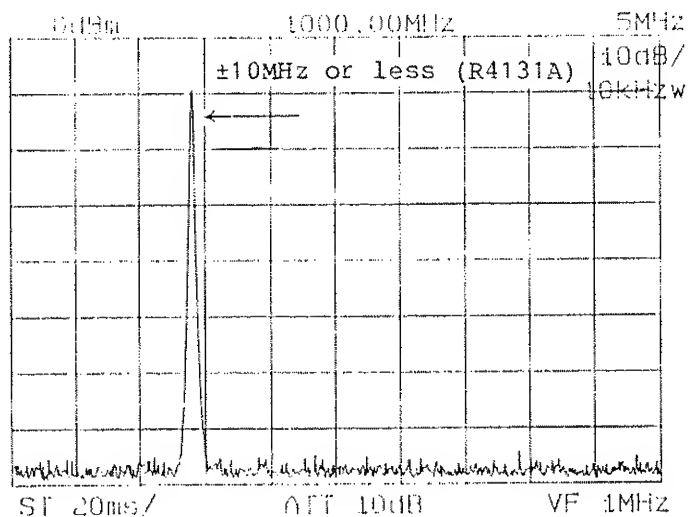

Figure 11-6 Center Frequency Readout Accuracy Test
- ③ Set the frequency to test the TR4511 synthesized signal source. An example of 1 GHz.
- ④ Set the dial of spectrum analyzer to 1000 MHz, gradually decrease the frequency span from 4G, 2G, 1G and so on, and set the frequency span so that the waveforms can be displayed within the screen.
- ⑤ Make sure that the shift from the center frequency is within the range of specifications (see Figure 11-6).